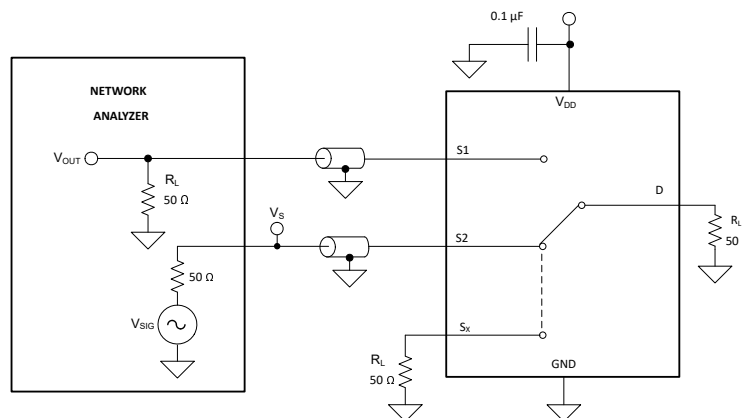

Figure 6-10. Channel-to-Channel Crosstalk Measurement Setup
Crosstalk is defined as the ratio of the signal at the drain pin (D) of a different channel, when a signal is applied at the source pin (Sx) of an on-channel. Figure 6-10 shows the setup used to measure, and the equation used to compute crosstalk.